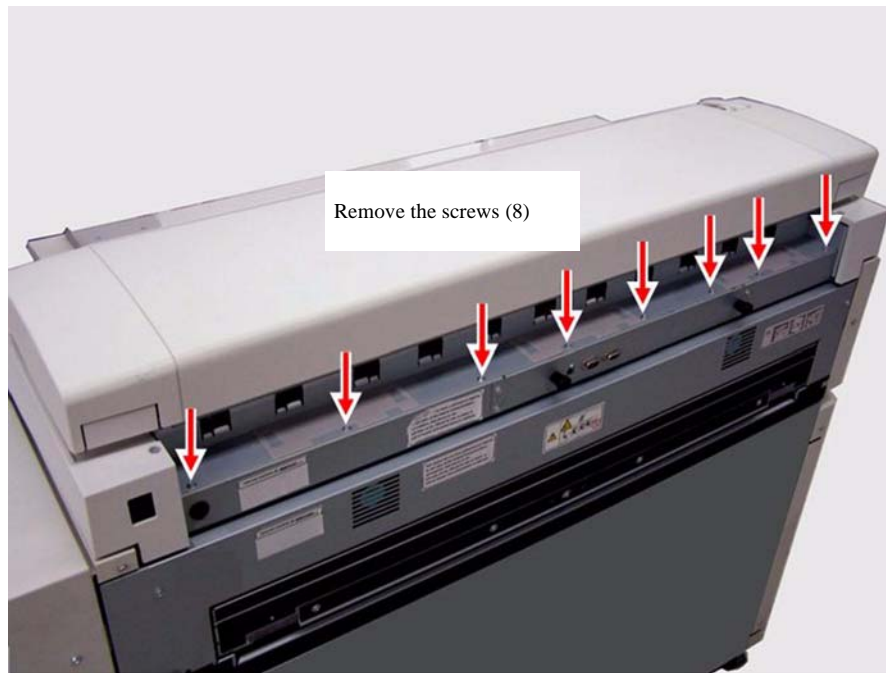

Figure 2 Rear screw locations
5. Remove the Rear Lower Baffle rear retaining screws (8) (Figure 2).